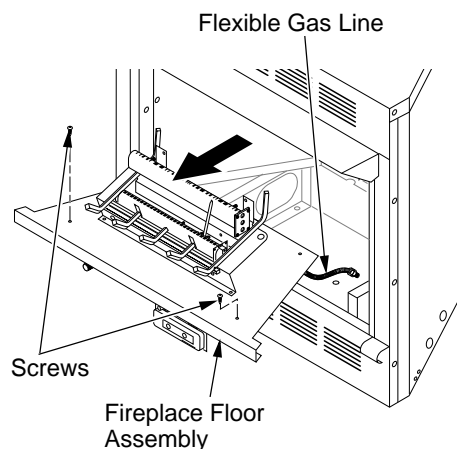

Figure 6 - Removing Fireplace Floor Assembly
3. Remove screws that attach fireplace floor assembly to fireplace. Open lower louver door. Carefully lift up fireplace floor assembly and remove from fireplace, taking care to pull flexible gas line through the access holes (see Figure 6, page 9).